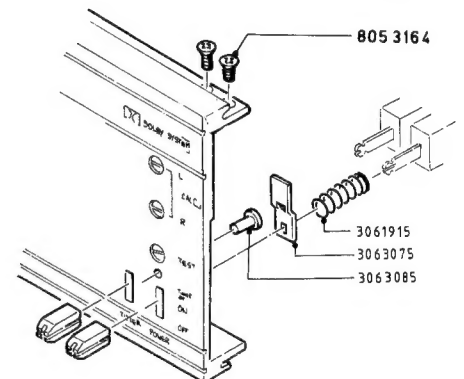

Fig. 3
- d) Remove the twelve Phillips head screws (8053164) above and below on the front panel (Fig. 3).